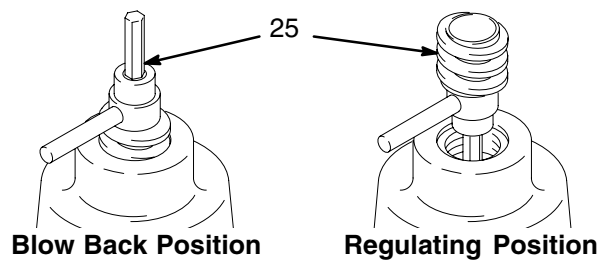

Fig. 2
1. Insert hex end of key (25) in adjusting screw (20) and turn counterclockwise until spring tension is relieved. See Figs 2 and 3.
2. Start pump and open shutoff valve of outlet (H) to admit fluid to regulator. Turn key (25) clockwise until desired fluid pressure shows on gauge.
3. Open regulator valve by screwing the threaded portion of key (25) as far as possible into the cap. See Fig. 2.
5. After blow-back, remove the adjusting key (25)